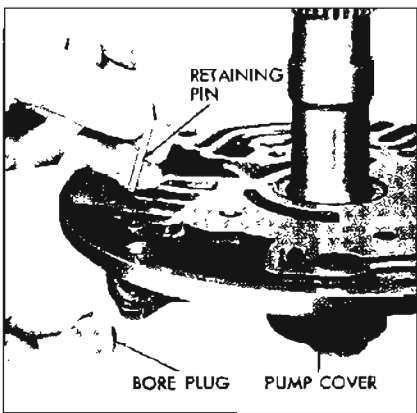

Figure 5-582
8. Remove the retaining pin and bore plug from the pressure regulator bore. See Figure 5-582.